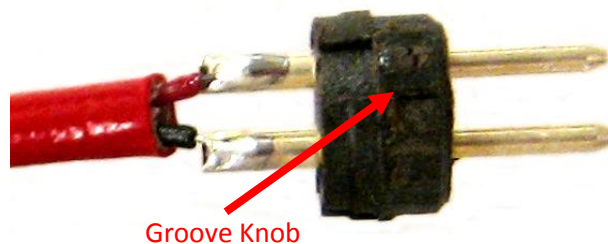
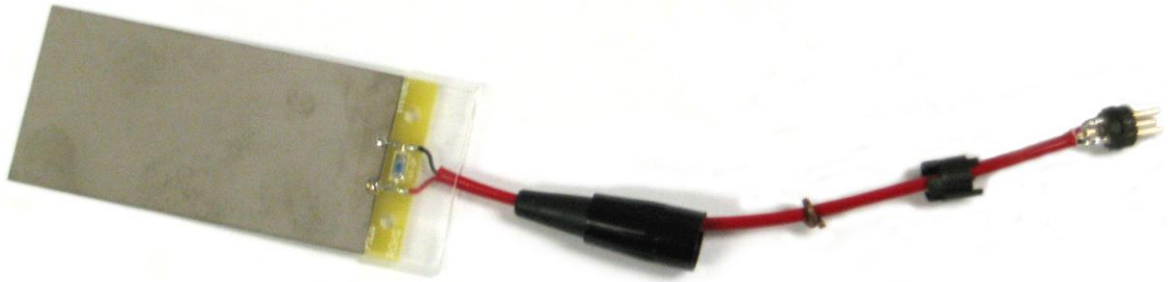

Fig. 4.5a Solder the leads to the top two pins, using the groove knob to identify them.
Fig. 4.5b The bending actuator after soldering the connector head.
- 4.5 Slide the connector head base cylinder over the fiberglass tubing, being mindful that the fitting prongs need to be oriented away from the bending actuator in order to connect to the connector head. Solder the bending actuator leads to the connector head. To maintain a consistent phase among all piezos, solder the red lead to the top left pin and the black lead to the top right pin. The top of the connector head is easily identified by the groove knob, highlighted in figure 4.5a, and the orientation of the pin cavities. The bottom pin is left unconnected. The tactile stimulator should now look like the one shown in figure 4.5b.